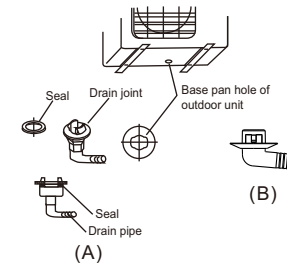

Fig.11
NOTE: The drain joint is slightly different according to the different outdoor unit. For the drain joint with the seal (Fig.11 (A)), first fit the seal onto the drain joint, then insert the drain joint into the base pan hole of outdoor unit, rotate 90 to securely assemble them. To install drain joint as shown in Fig.11 (B), insert the drain joint into the base pan hole of outdoor unit until it remains fixed with a clicking sound. Connecting the drain joint with an extension drain hose (Locally purchased), in case of the water draining off the outdoor unit during the heating mode.